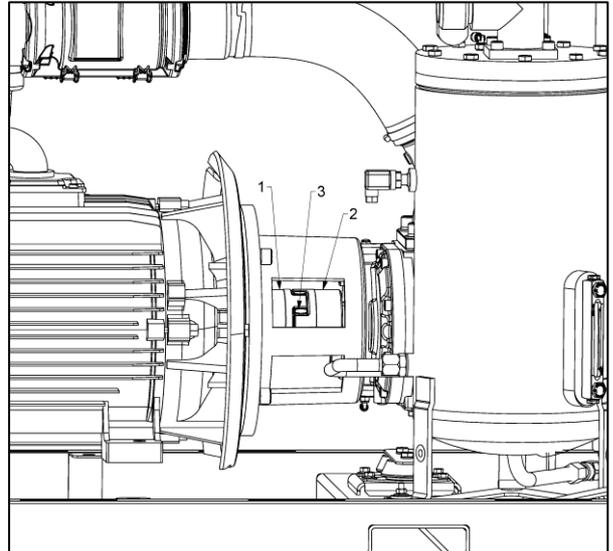

Fig. 25
- Loosen the set screws of both hubs of the drive coupling (-1- and -2- Fig. 25)
- Slide the hubs apart. Manoeuvre the drive coupling spider (-3- Fig. 25) out of the connecting housing.